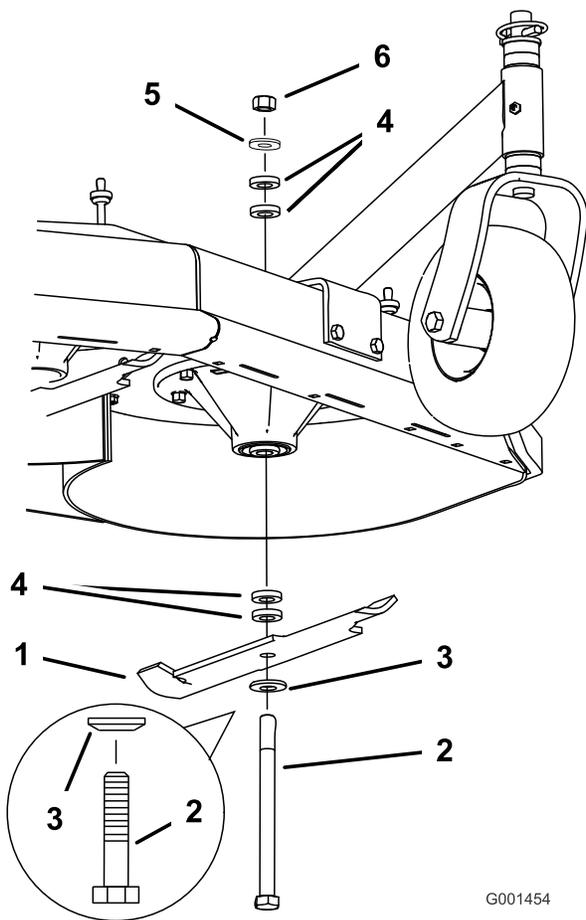

Figure 17
3. Hold the blade bolt and remove the nut (Figure 17).
- Slide the bolt down through the spindle, and change the spacers as needed (Figure 17).
- Install the bolt and curved washer, add extra spacer(s), and secure them with a thin washer and a nut (Figure 17).